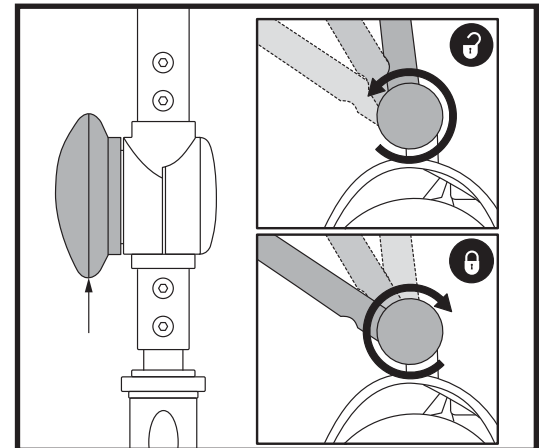

Figure 17. Tiller Adjustment Knob
## TILLER ANGLE ADJUSTMENT (See figure 17)
1. With the seat and battery pack removed (see Disassembly Procedures on previous page), lower the tiller and tighten the tiller adjustment knob. **See figure 17.**
3. Raise the tiller and fully tighten the tiller adjustment knob. **See figure 17.**